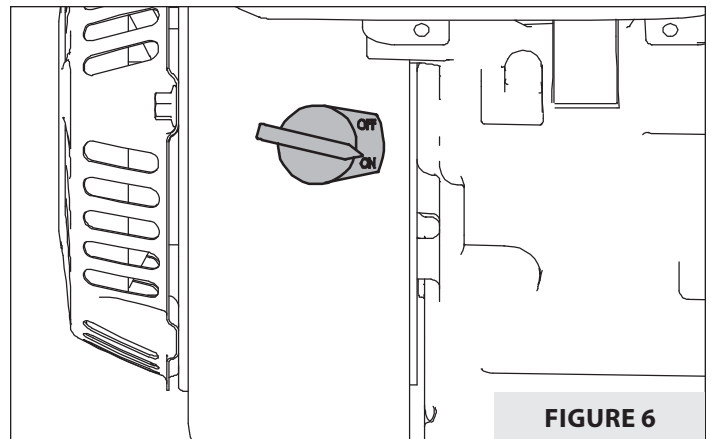

FIGURE 6
7. Turn the On/Off switch to the **ON** position. **SEE FIGURE 6.**